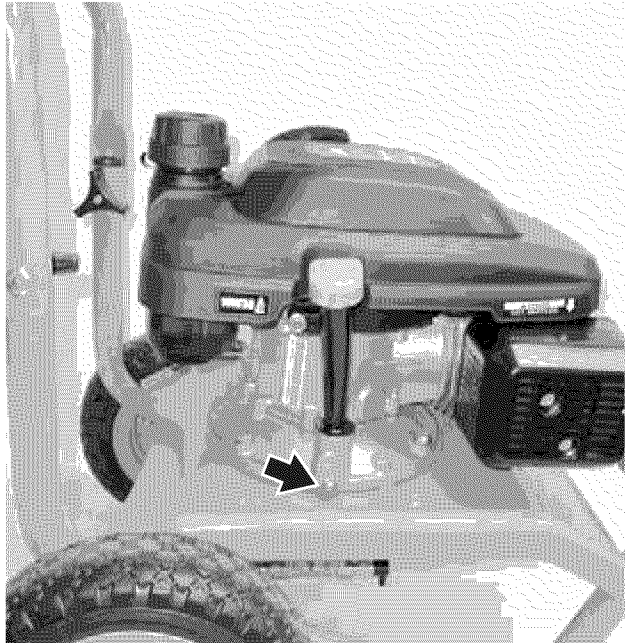

Figure 51 – Oil Drain Plug
6. Remove the oil drain plug (see *Figure 51*). Once removed, place the oil drain plug on a clean surface.